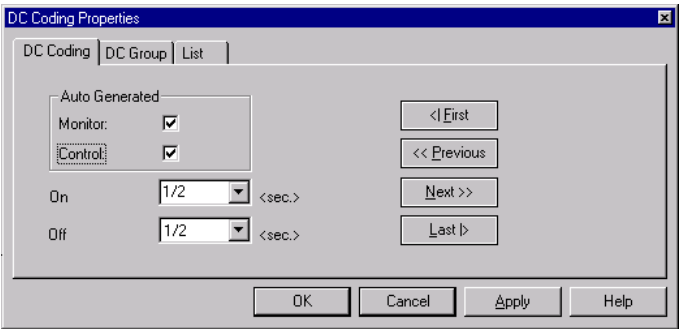

Figure 8-8. Coding Group Properties
1. Right click on the group and select Properties from the menu that appears. A screen similar to the one shown in Figure 8-8 appears.